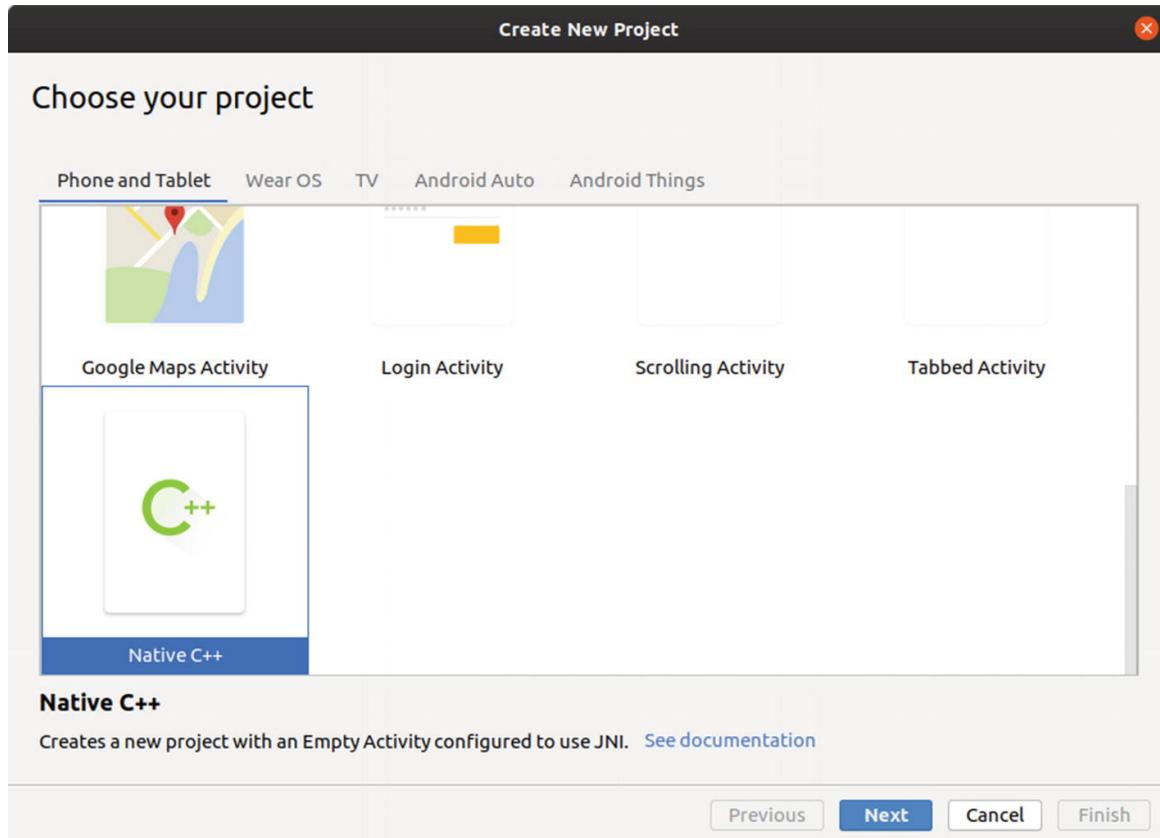

Figure 10-1 Select a “Native C++” project type
2. From the “New Project” dialog box, choose the project type as “Native C++” as shown in Figure 10-1.